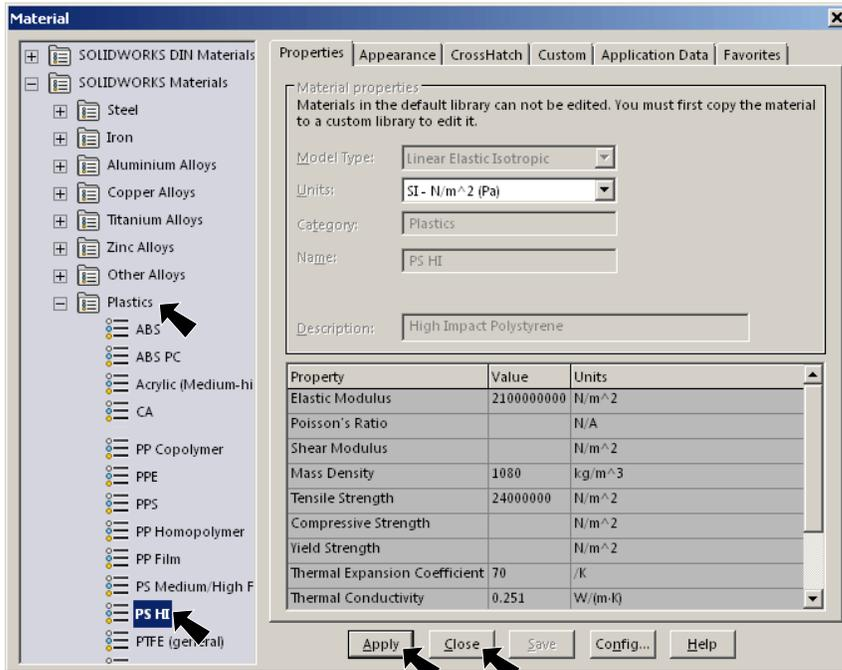

Fig. 34
Step 2. Expand Plastics in the material tree and select PS HI, Fig. 34.